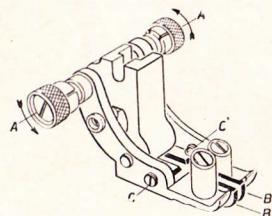
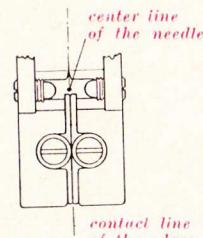
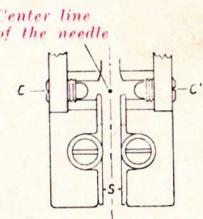
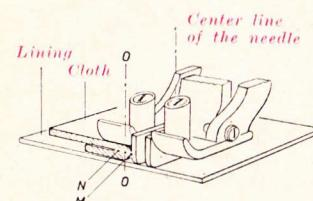

fig. 23
fig. 24
fig. 25
fig. 26
- 5) Adjust the knurled knobs AA (Fig. 23) so that the edge line between the two plates BB is perpendicular to the needle, as shown in illustration Fig. 24.
- 6) Turn the knurled knobs AA in the sense of the arrows (Fig. 23) in order to remove sideways the plates BB by the distance desired. The distance between the two plates BB must correspond to the desired width of the zig-zag stitch. The width of the zig-zag stitch is to be chosen in accordance with the thickness of the cloth to be sewn (the thicker the cloth, the wider the zig-zag stitch). Needle must fall right in the middle of the distance between the two plates BB (see Fig. 25).
10) It is now advisable to make a few trial seams on a sample of the cloth that is to be sewn. Proceed as shown in illustration Fig. 26 namely:
- fold the cloth and place it on the lining and under the foot as shown in Fig. 26; the folded edge « M » of the cloth must be close to the left plate of the blind stitch foot;
In the first case, turn the left knurled knob A (Fig. 23) contrary to the arrow, while in the latter case this knob is to be turned according to the arrow until the needle falls in the right position OO between M and N (see Fig. 26).